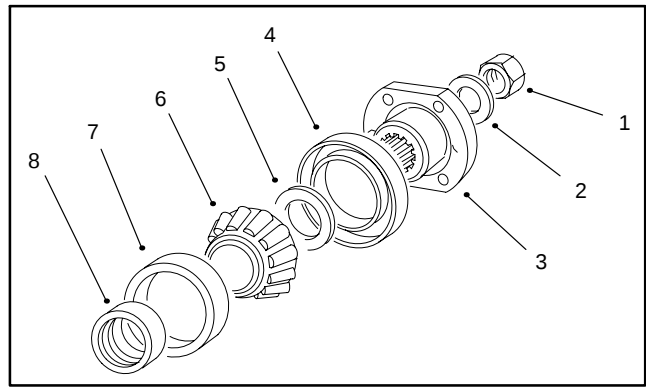

Figure 31
11. Install differential gear holder to carrier to retain spur gear (see Special Tools). Remove nut, washer, flange coupler and seal from the pinion shaft (Fig. 31).
14. Remove oil seal from housing. Then remove the bearing shim, outer pinion bearing cone and bearing spacer from the housing (Fig. 31).